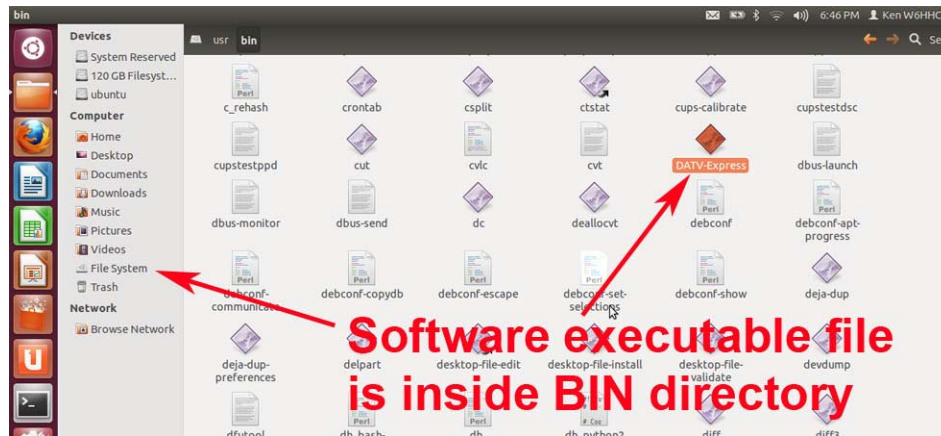

Figure 7 – Open the BIN directory (that is inside the USR directory) and drag or copy the DATV-Express executable file to desktop
- Search for DATV-Express inside BIN directory (see **Figure 7**)
- Open up the DASH “application finder” icon on left-hand side of desk top, just below POWER icon. See Figure 7.